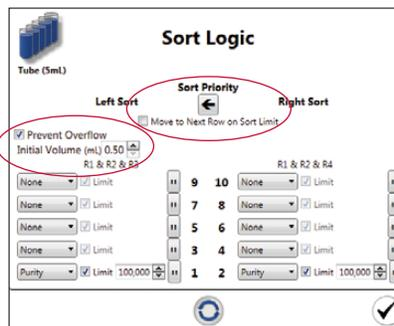

Fig. 10. Sort Logic window displaying various parameters.
9. Define the parameters in the Sort Logic window by setting the sort mode (Purity, Enrich, or Single) and event limit for each collection position (Figure 10).
10. Define the sort collection tube volume if you want to track the collected volume to prevent collection overflow (Figure 10).